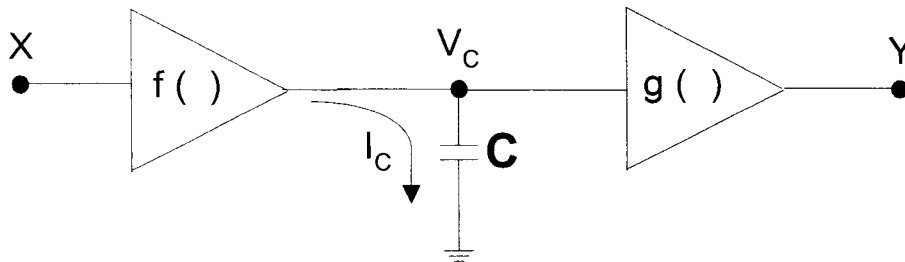

Figure 5.1
a. Figure 5.1 illustrates a general companding circuit.